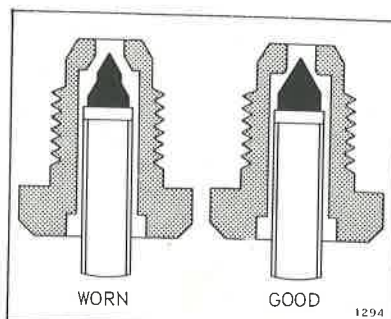

Figure 3-11. Inlet Needle Valve Seat Wear
c. Check the needle valve seat with a magnifying glass; if seat is nicked, scratched, or worn out-of-round, it will not give satisfactory service. See Figure 3-11. The valve seat and needle are a matched set; if either is worn, both parts must be replaced. Use a new sealing gasket when reinstalling the needle seat.